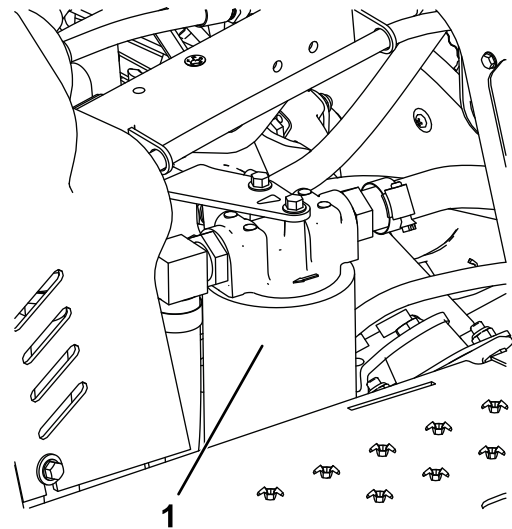

Figure 42
4. Place a drain pan under the hydraulic filter, which is located at the left side of the machine (Figure 42).
7. Install the new hydraulic filter (Figure 42) by turning it on by hand until the gasket contacts the filter head, then tighten the filter 3/4 turn further.